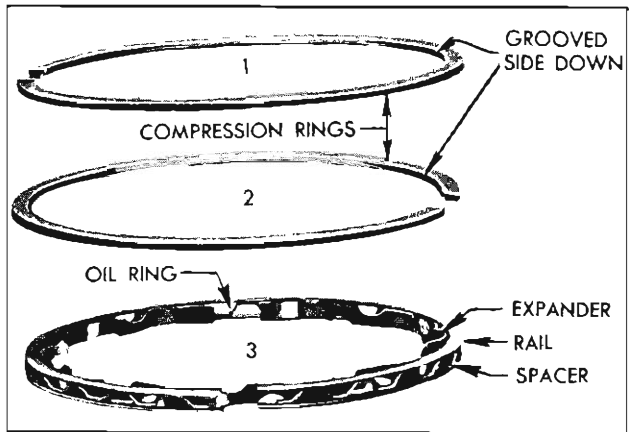

Fig. 3-132 Piston Rings
8. Install piston rings as shown in Fig. 3-132. Position expander ends over piston pin. Install oil ring rail spacer, and oil ring rails. Position gaps in rails up on same side of piston as oil spit-hole in connecting rod. Install compression rings in upper two grooves. If a single chrome plated compression ring is used, the chrome ring must be installed in the top groove.
9. Install compression rings in top and center groove. See Fig. 3-132.